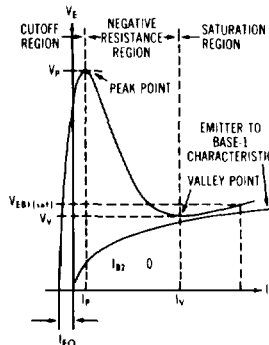

FIGURE 3 — V_{OB1} TEST CIRCUIT
- Base-One Peak Pulse Voltage is measured in circuit of Figure 3. This specification is used to ensure minimum pulse amplitude for applications in SCR firing circuits and other types of pulse circuits.